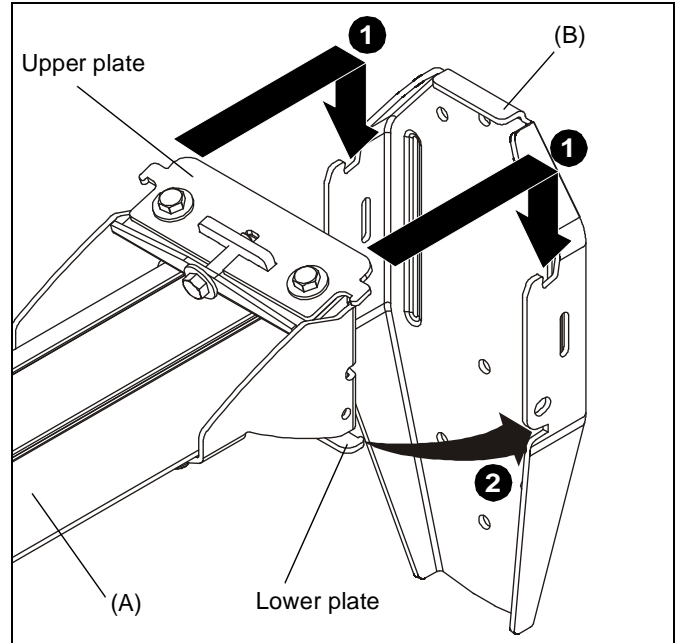

Figure 10
1. Lift WMA1S assembly (A) up to wall bracket (B) and hook upper plate over upper notches on bracket. (See Figure 10)
2. Slide lower plate into lower notches on bracket. (See Figure 10)